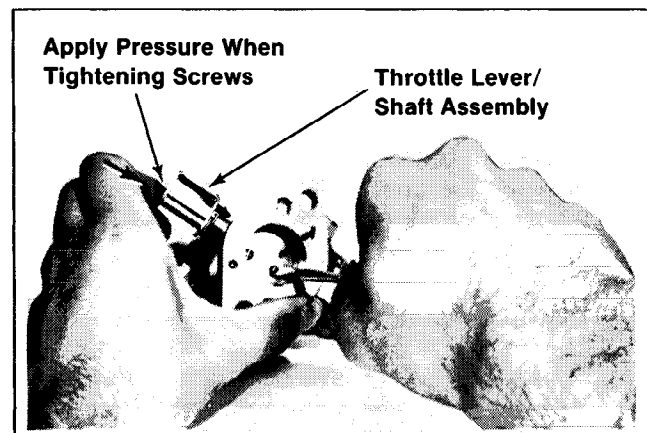

Figure 6-27. Installing Throttle Lever/Shaft.
3. Apply finger pressure to the throttle lever/shaft to keep it firmly seated against pivot in carburetor body. Rotate the throttle shaft until the throttle plate fully closes the bore around its entire perimeter; then tighten screws. Refer to Figure 6-27.